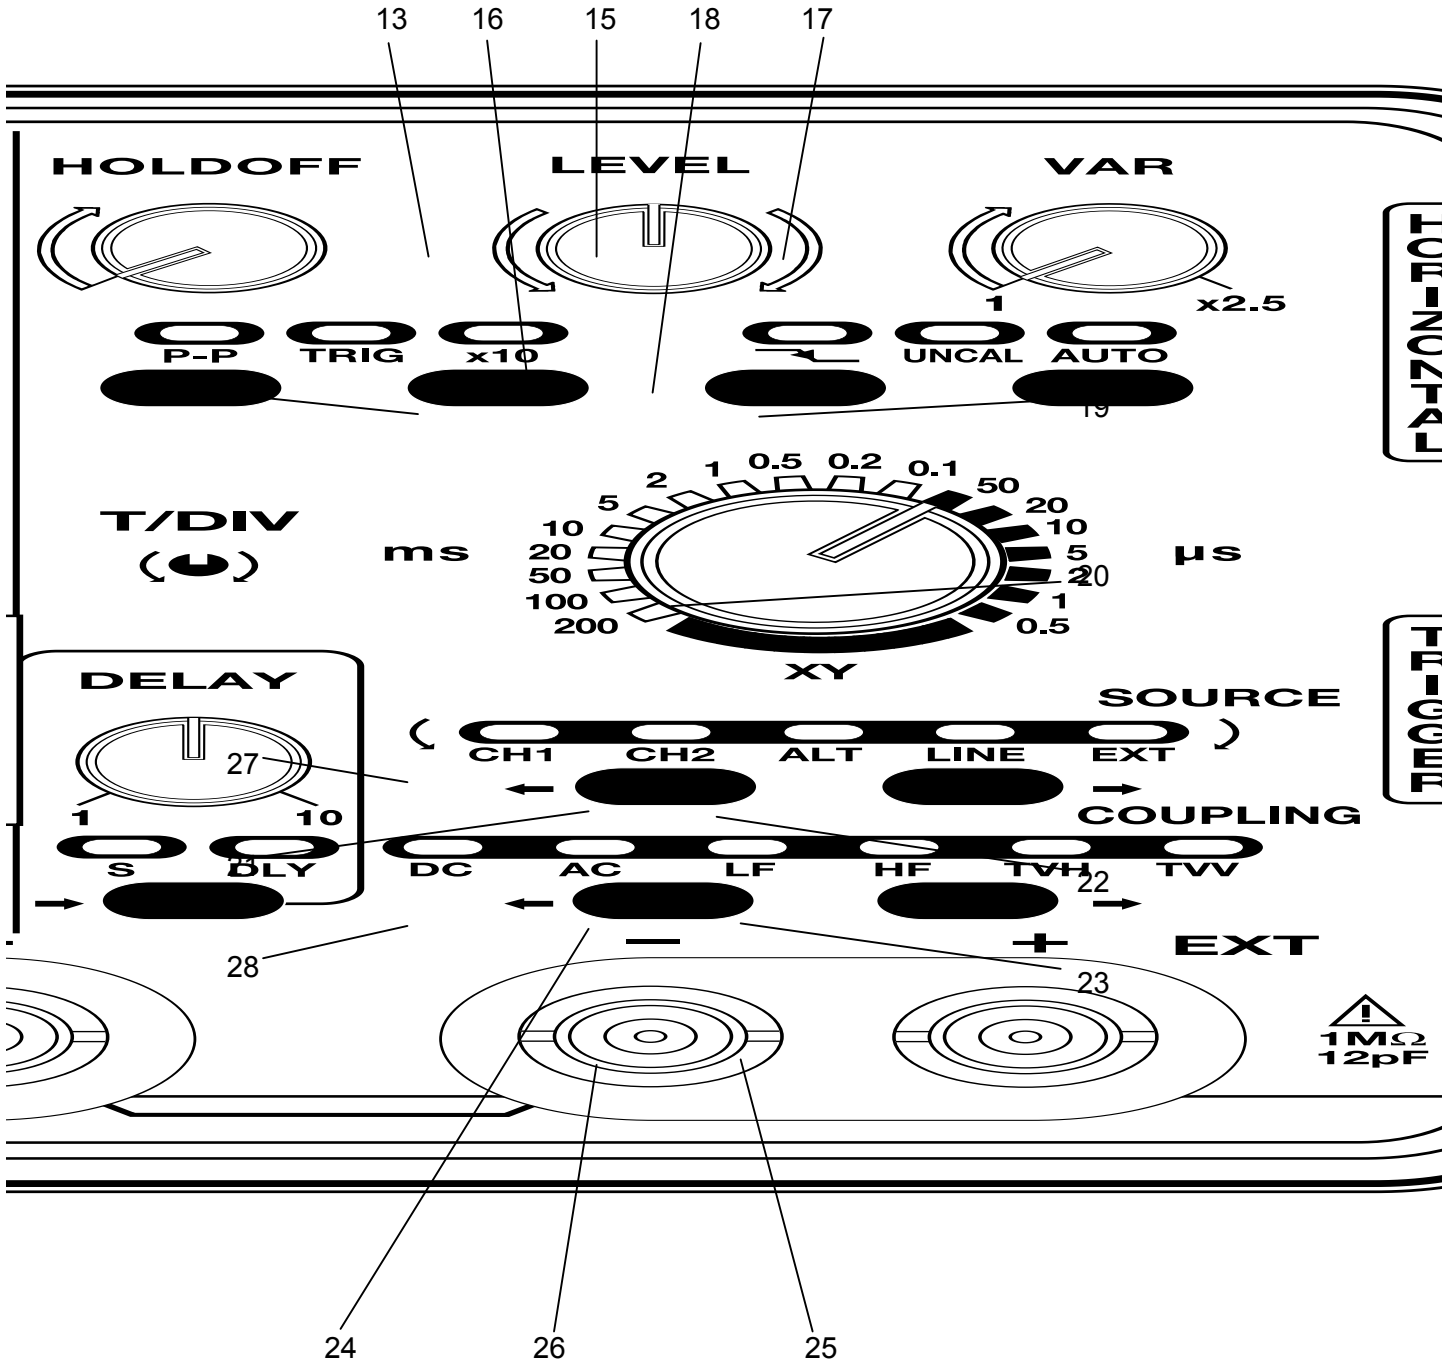

Figure 4
3.4. Timebase (Refer to figure 4, next page).
- (20) **T/DIV** - Sweep coefficient selection : 18 positions (0.5 μ s to 200 ms/div.)